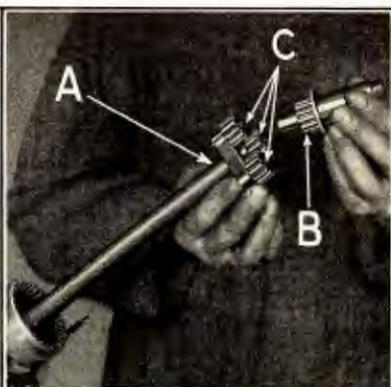

Fig. 388
- 750** Withdraw steering gear post (See "A" Fig. 388) from steering gear tubing and lift out steering gear drive pinion "B". The three steering gear pinions "C" can then be lifted from pins on steering gear spider.
769 The pinions are installed by inserting them over the ends of the three pinion pins. The steering gear drive pinion is then inserted into end of steering post and meshed with the three pinions (See Fig. 388).